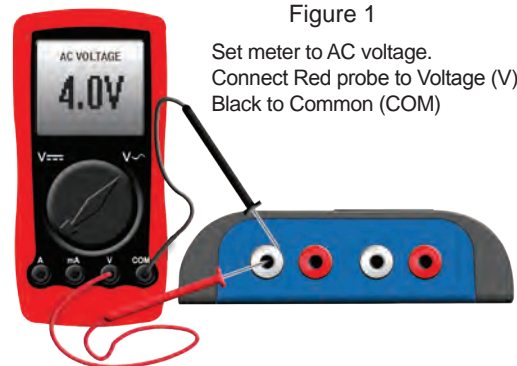

Figure 1
3. Choose either left or right channel - With multi-meter, test output of LP6-4 front channels. Probe with negative on RCA shield and positive in center of RCA output. (figure 1)